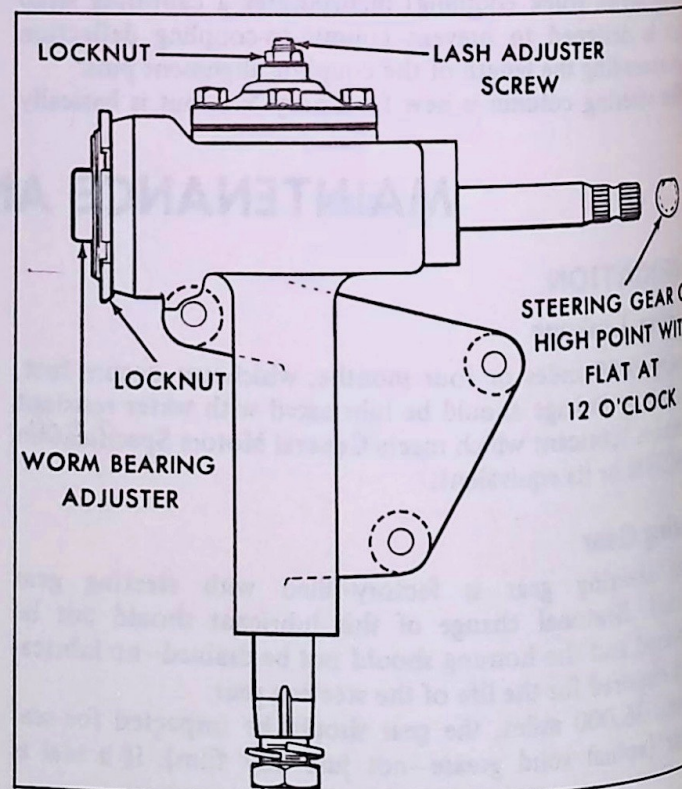

Fig. 2—Steering Gear Adjustment Points (Typical)
5. Loosen the pitman shaft lash adjuster screw locknut and turn the adjuster screw a few turns in a counter-clockwise direction (fig. 2). This relieves the load imposed on the worm bearings by the close meshing of the ball nut and sector teeth.
7. To adjust the worm bearings, loosen the worm bearing adjuster locknut and turn the worm bearing adjuster (fig. 2) until there is no perceptible end play in the worm. Check the torque at the steering wheel, readjusting if necessary. Tighten the locknut and recheck the torque.